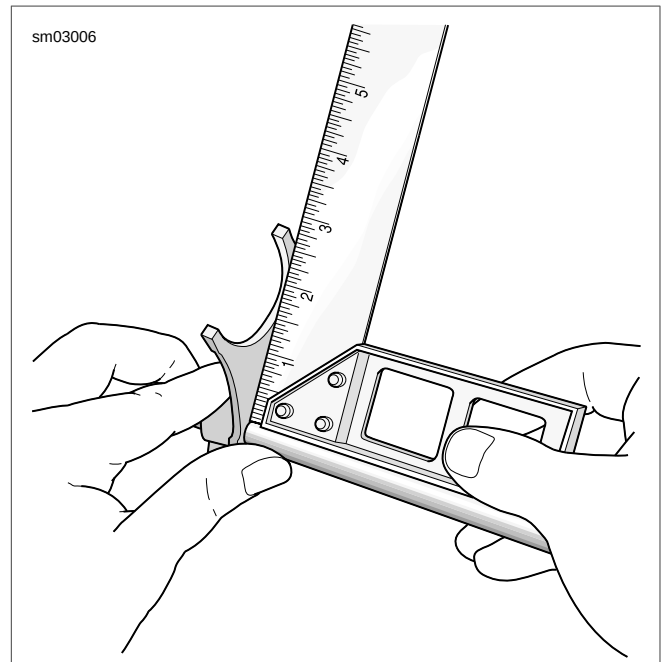

Figure 6-25. Checking Fork
7. See Figure 6-25. Using a small carpenter's square, verify the shift forks are square. If shift fork does not rest directly on the square, then it is bent and must be replaced.